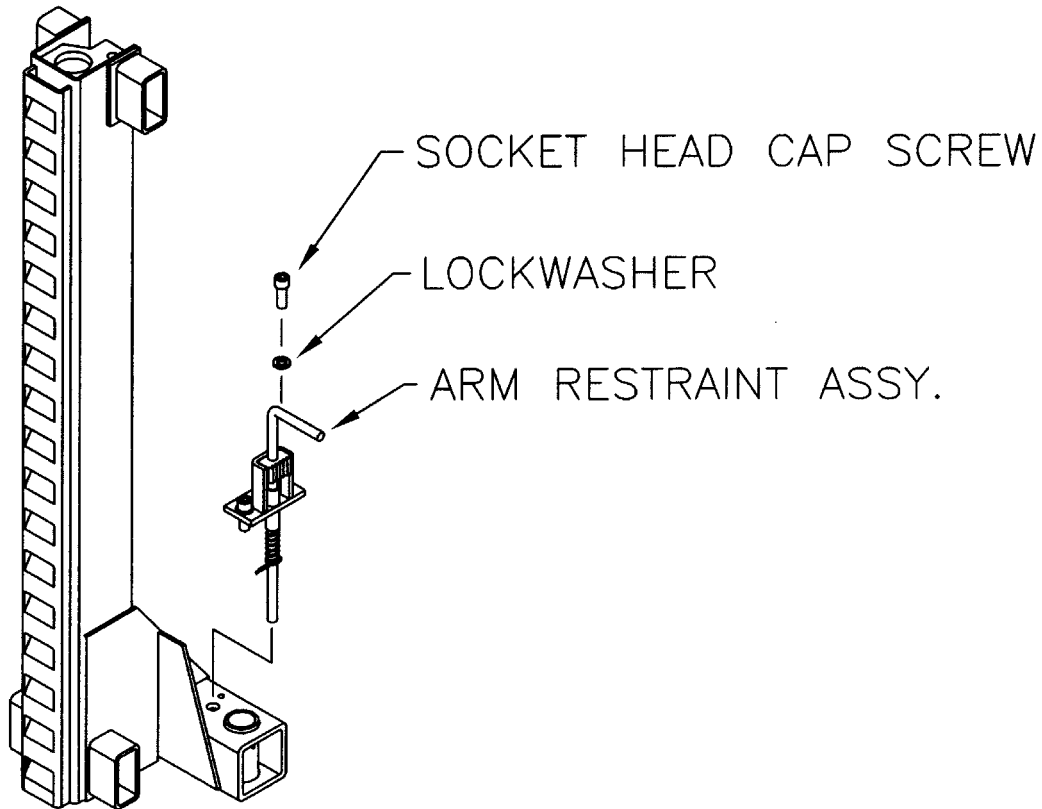

Figure 8 – Arm Restraint Installation
Using two (2) 3/8"-16UNC x 1" LG. socket head cap screws, and two (2) 3/8" ID lockwashers, install the arm restraint assemblies as shown in **Figure 8**. Before tightening completely, make sure that the arm restraint has full contact with the arm restraint gear by pushing it firmly against the arm.